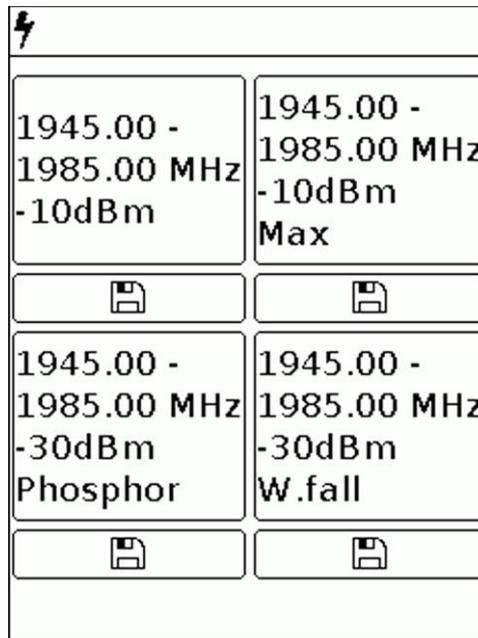

Figure 8.7.1 – Custom settings menu
8.7.1. Enter the main menu of the device and select the «Presets» section. A menu will appear on the screen for saving and loading user settings, as in Figure 8.7.1.